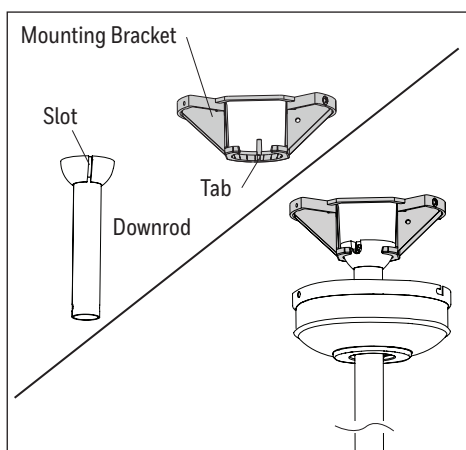

Figure 3.4
4. Install the ball end of the downrod into the opening of the mounting bracket. **WARNING:** Failure to align the slot in the ball with the tab on the mounting bracket may cause the fan to fall, which could result in injury or death (Figure 3.4).